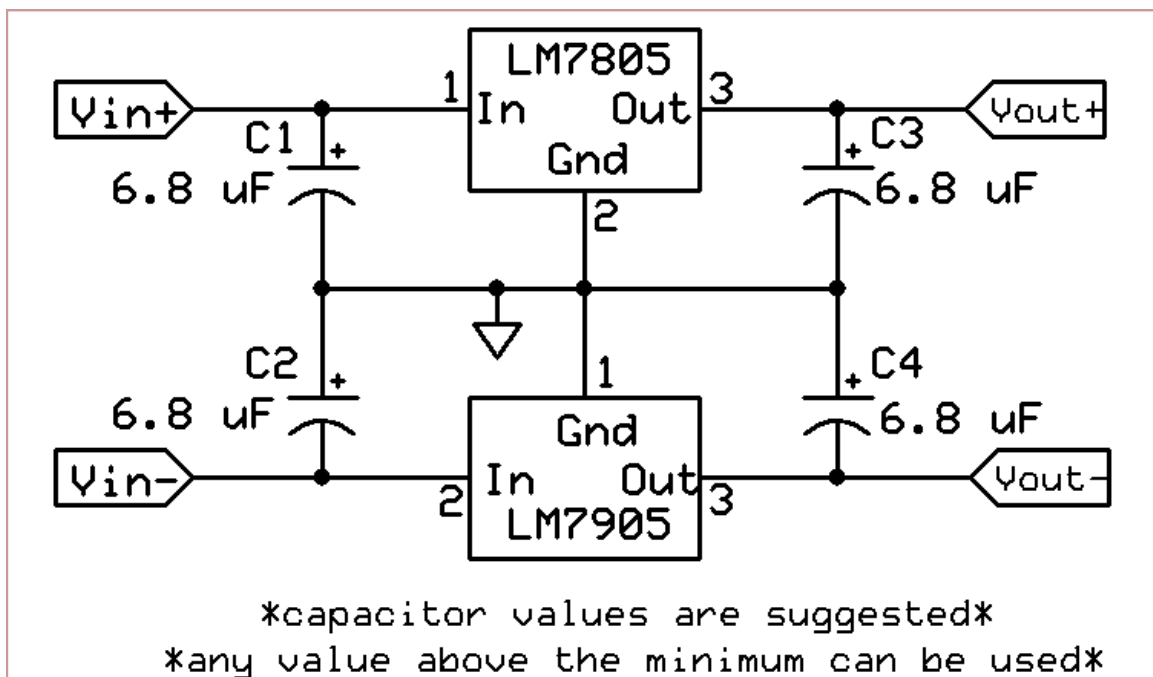

Figure 4. Creating a +/- 5V dual supply with MC7805 and MC7905 regulators.
Linear regulators can be used to create a simple dual supply. A dual supply has both a positive supply and a negative supply which share the same ground. The lab exercise section will explain how to set up the lab power supply as a dual supply. The schematic of the regulated dual supply is shown in Fig. 4. In this schematic the circuits of the positive and negative regulators mirror each other. Note the different pin connections listed in the schematic. If the pins are connected wrong, the regulator can present a short circuit to the power supply. The capacitor polarities are important too. You may be used to connecting the negative terminal of electrolytic capacitors to ground, but remember that the negative terminal has to be at a lower potential than the positive terminal. This is why the positive terminals of the capacitors used for the negative supply connect to ground, and the negative terminals connect to the negative voltage input or output. Be sure to understand this before proceeding with building this circuit.
1. The circuit built in this exercise will be used in the next exercise in this lab. Please spend some time to build this circuit properly. Build the circuit shown in Fig. 4 on your breadboard. You can substitute capacitors that are 2.2 μF if you can't find the values shown. Be sure the capacitors on the input side are rated to 35V or more. The capacitors on the output side should be 6.3V or more.